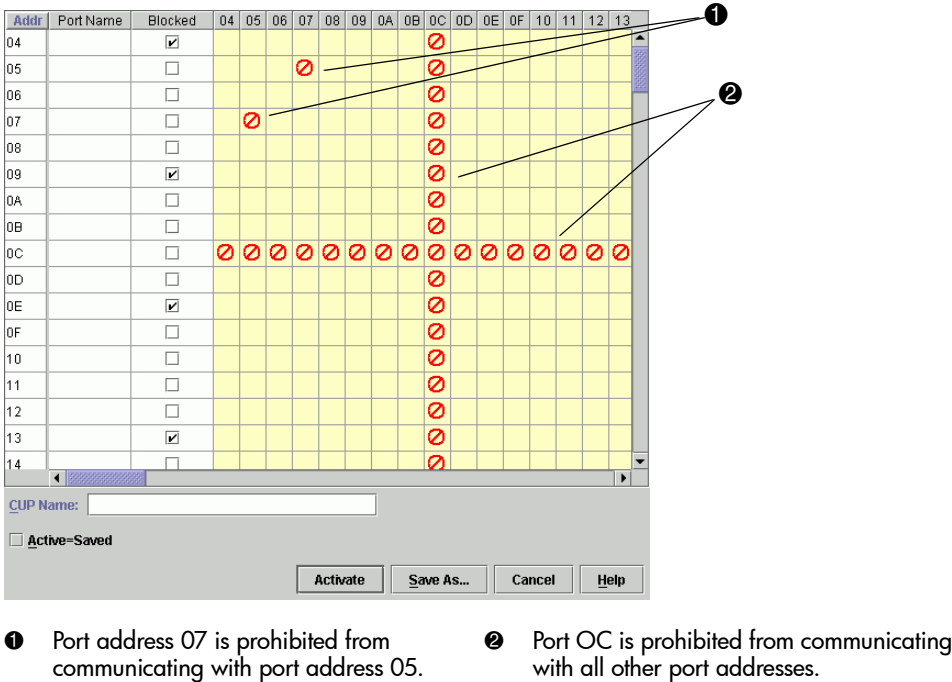

Figure 35: Configure Addresses - “Active” dialog box
Use the Configure Address - “Active” dialog box (see Figure 35 on page 125) to create and activate port address configurations.
1. Click **Configure > Addresses > Active**. The Configure Addresses - “Active” dialog box displays, as shown in Figure 35.